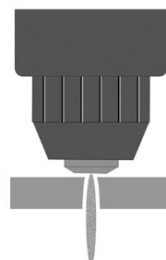

Fig. 11
4. Torch height too low. Reverse bevel. Tip may contact the work and short out or damage the tip (Fig. 11).